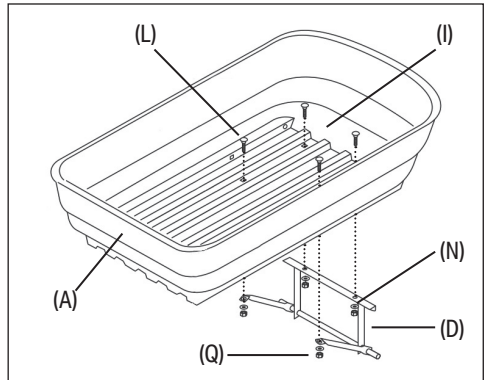

Fig. 1
1. Attach the rear axle assembly and struts to the hopper - Fig.1:
a. Position the rear axle assembly (D) beneath the rounded end of the hopper and align the holes.